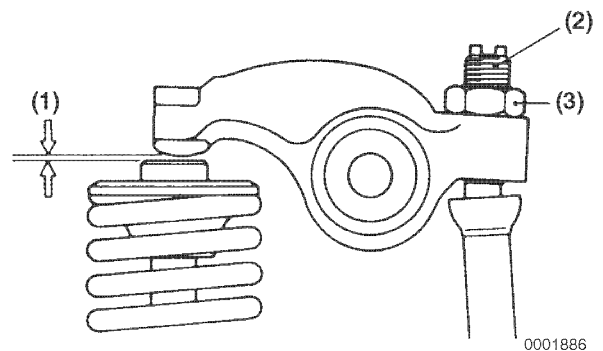

Figure 6-33
3. Check the valve clearance (**Figure 6-33, (1)**) using a feeler gauge. If adjustment is required, proceed to the next step. See *Valve Clearance on page 6-5* for the specification.
4. Loosen the adjusting screw locknut (**Figure 6-33, (3)**). Turn the valve adjustment screw (**Figure 6-33, (2)**) to adjust the valve clearance so there is a slight "drag" on the feeler gauge when sliding it between the rocker arm and the valve cap. Hold the adjusting screw while tightening the valve adjusting screw locknut. Recheck the clearance.